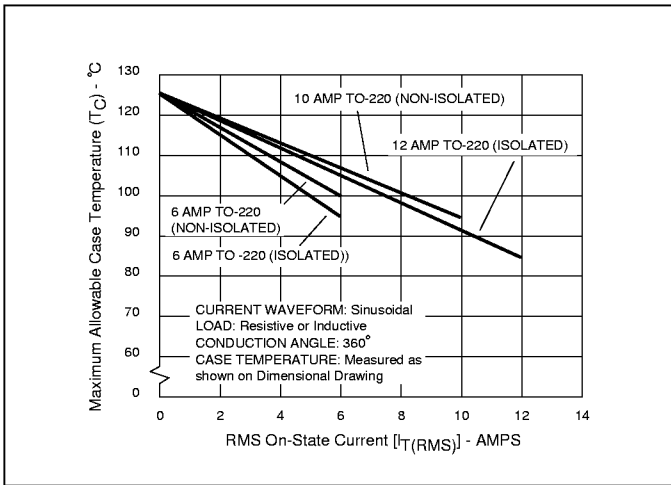
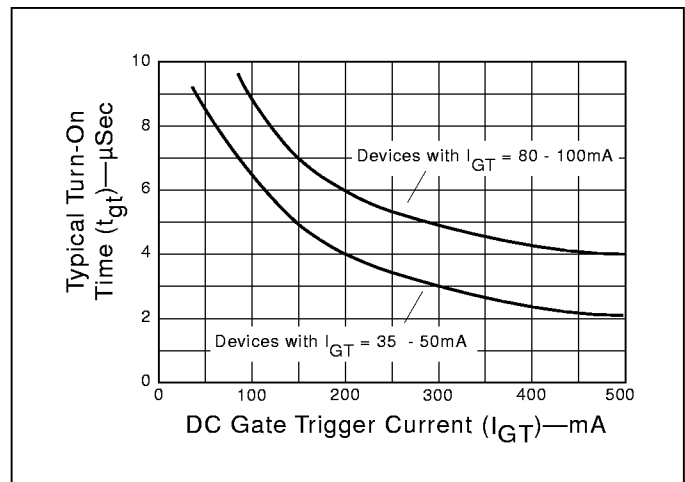

Figure 4.1 Maximum Allowable Case Temperature vs On-State Current (6-12 Amp Devices)
Figure 4.12 Turn-On Time vs Gate Trigger Current (Typical)
- See Figures 4.1 through 4.4 for current rating at specific operating temperature.
- See Figure 4.12 for  $t_{gt}$  vs  $I_{GT}$ .
- Initial on-state current = 400 mA(DC) for 15-40A devices and 100mA for 6-12 Amp devices.
- See Figures 4.1 through 4.4 for maximum allowable case temperature at maximum rated current.